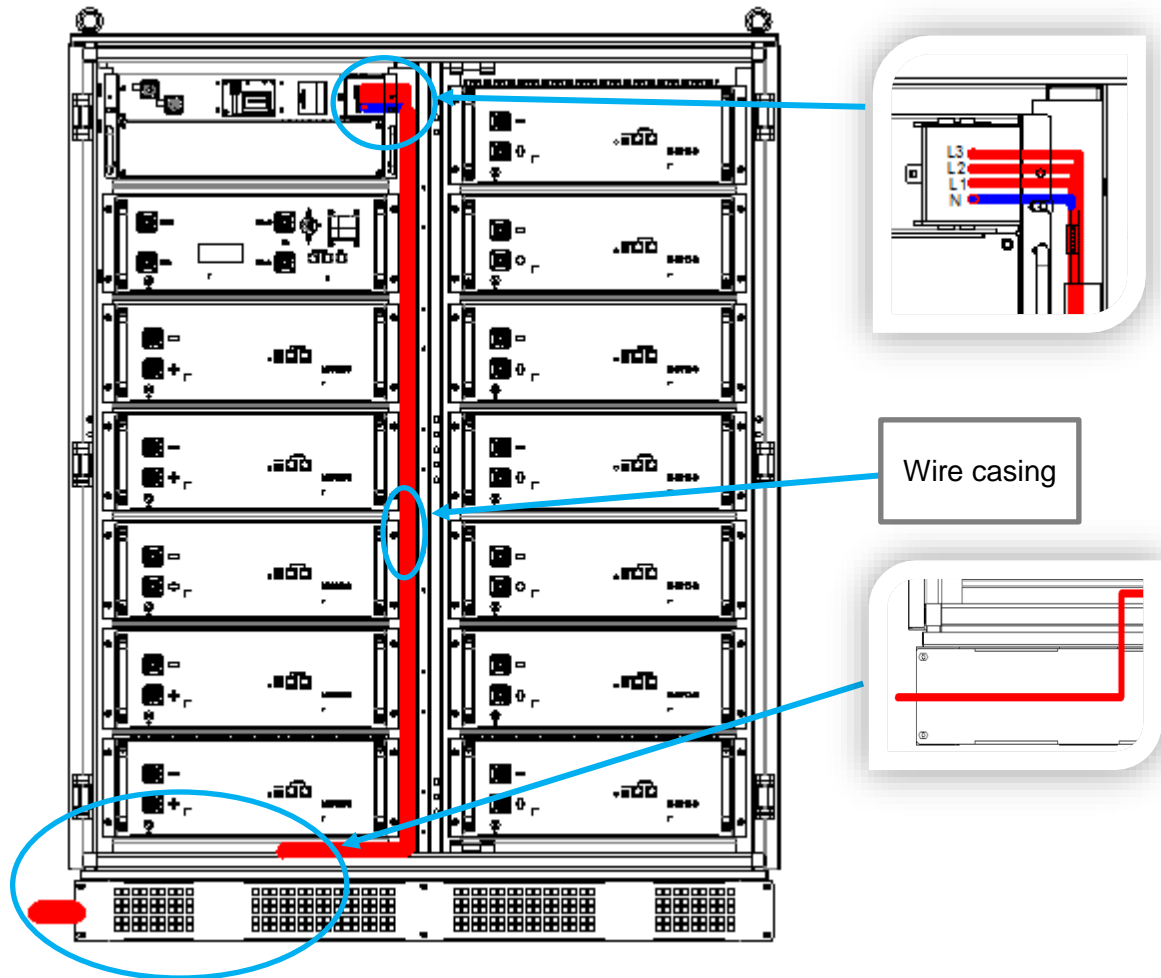

Figure 4.14 AC Power Cable Connection
Step 3: Take the L and N auxiliary power cables away from the T30-INV. After that connect the L1, L2, L3 and N power cables to the inverter, the cables shall be routed through the cable way (wire casing) as shown in Figure 4.14. In view of the requirements of connecting cables, single or multiple cables with suitable diameter shall be selected. A 10 mm² cable with copper core is suggested for each phase.